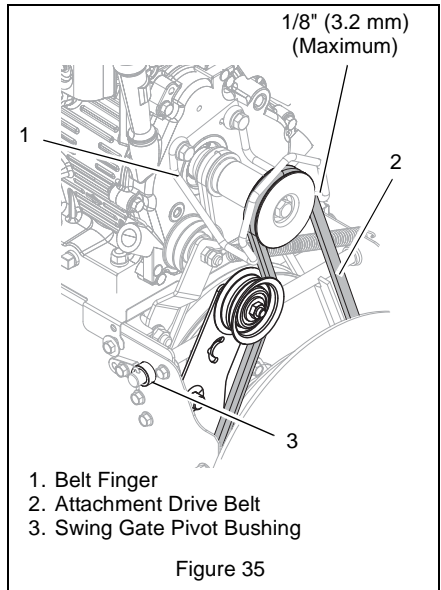

Figure 35
**IMPORTANT:** With the attachment clutch lever engaged, the belt finger located opposite the belt idler must be less than 1/8" (3.2 mm) from the belt, but not touching the belt, or belt grabbing may occur causing impeller to rotate while the attachment clutch is disengaged (Figure 35).